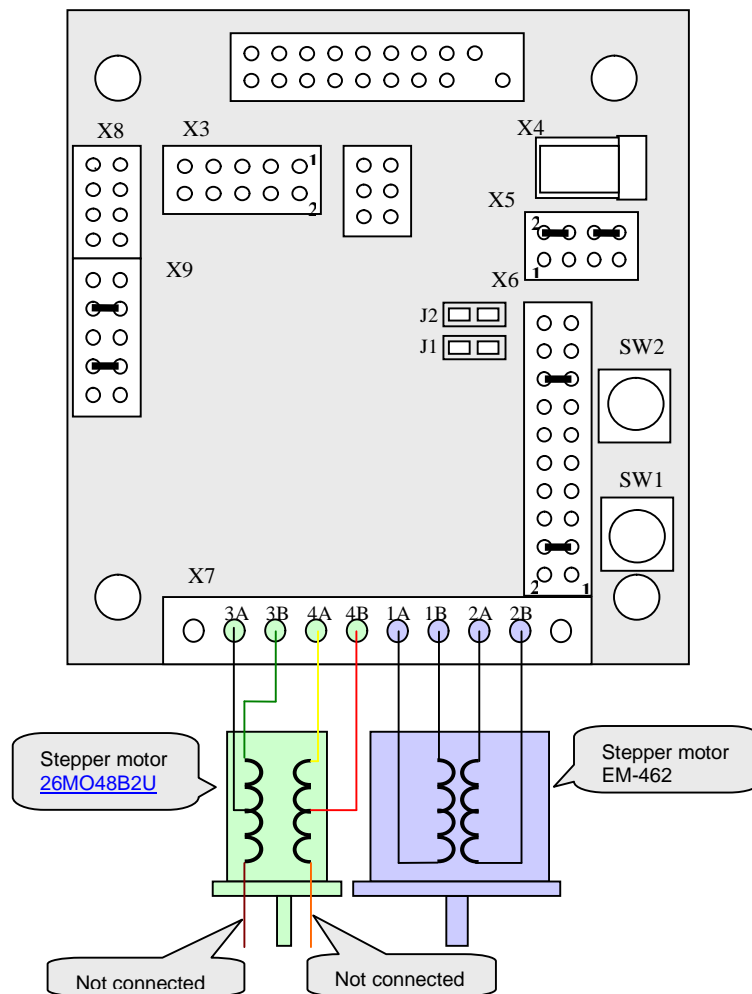

Figure 3: Connection of 4-wire and 6-wire stepper motors simultaneously
- Check all installed jumpers in accordance with Figure 3;